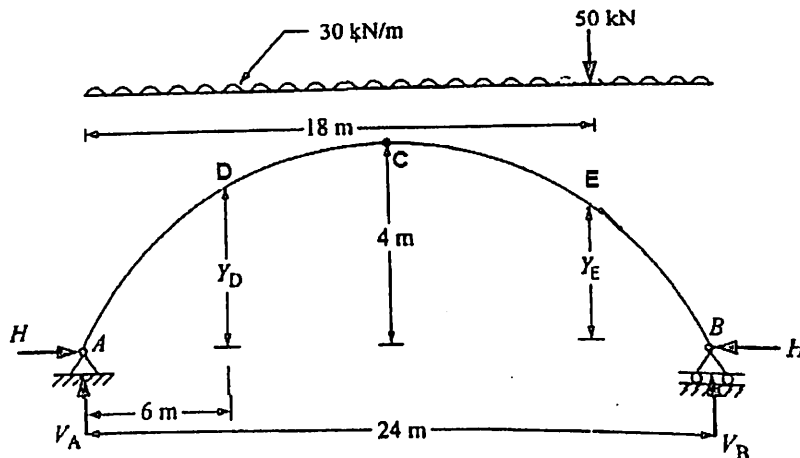

Figure Q3
- b) A **three-hinged** parabolic arch hinged at the supports and at the crown has a span of 24 m and a central rise of 4 m. It carries a concentrated load of 50 kN at 18 m from the left support and a uniformly distributed load of intensity 30 kN/m over the entire span as shown in **Figure Q3**. Find the support reactions at the abutments/supports A and B, and the bending moments at the point load D and E (point load). Also draw the bending moment diagram for the arch (drawing not to scale). (8 marks)